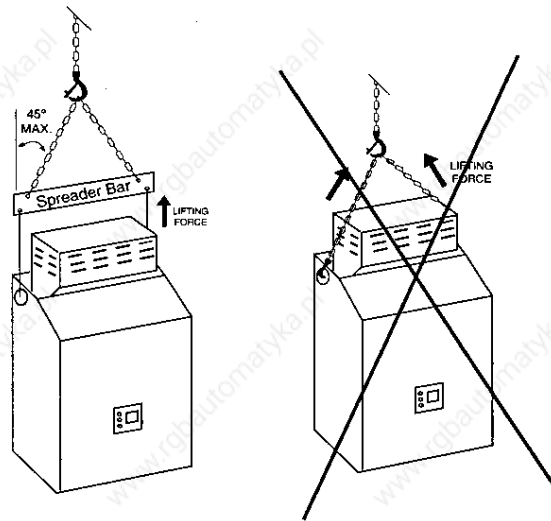

Figure 5 Hoisting the Starter
- With a hoist. When hoisting starters, attach a spreader bar to the two lifting rings on top of the starter as shown in Figure 5.
Keep area below any equipment being lifted clear of all personnel and property. Use lifting method shown in Figure 5.